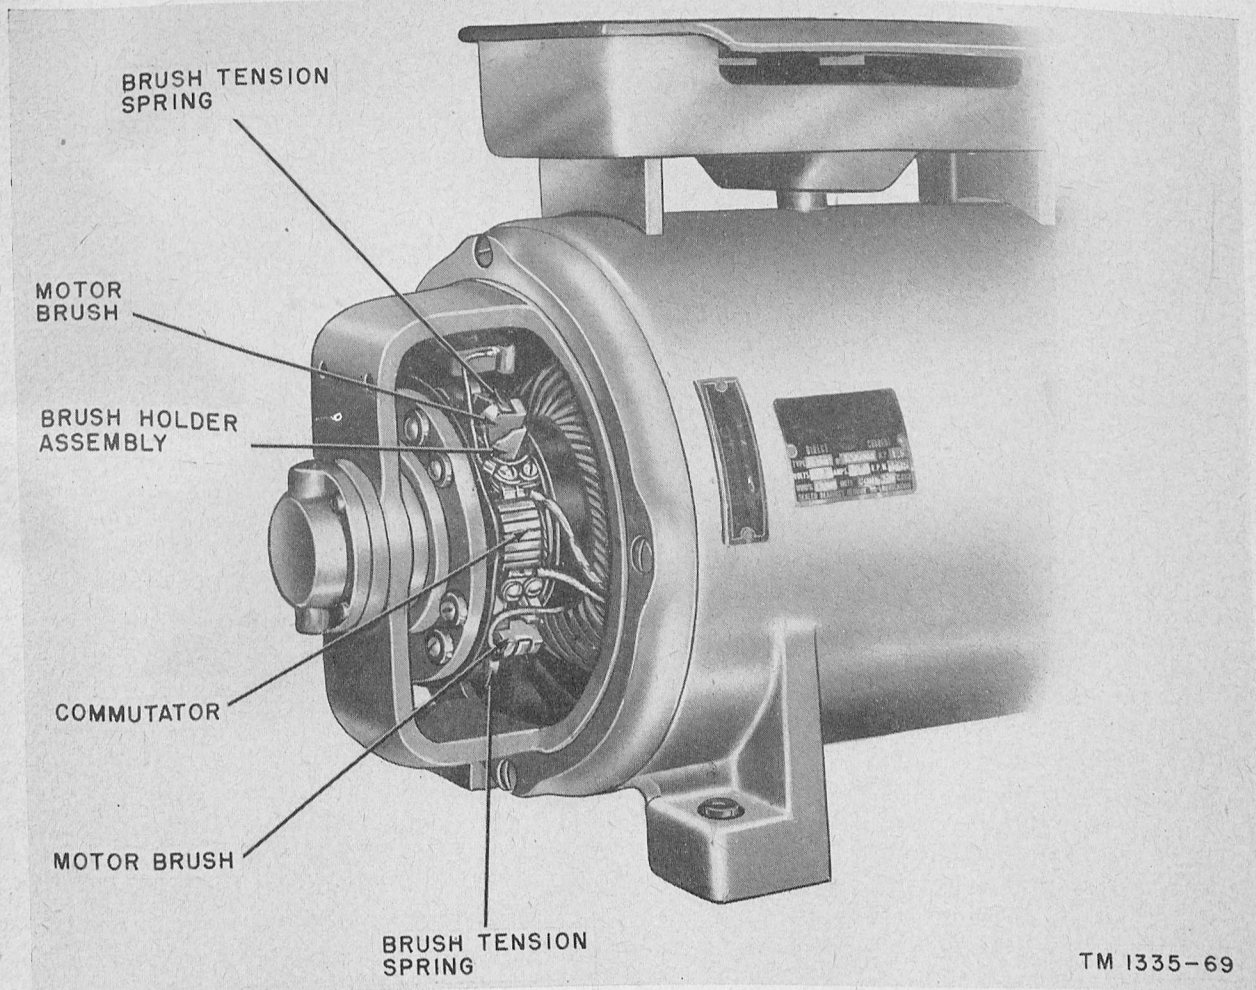

Figure 71. Motor end of motor generator.
- (1) Remove the brush access cover (fig. 71).
- (2) Insert the cleaning tool and rub the canvas surface against the exposed commutator surface.
- (3) Rotate the armature to expose and clean the next commutator surface.
- (4) Repeat the steps in (2) and (3) above, until all commutator surfaces have been cleaned.